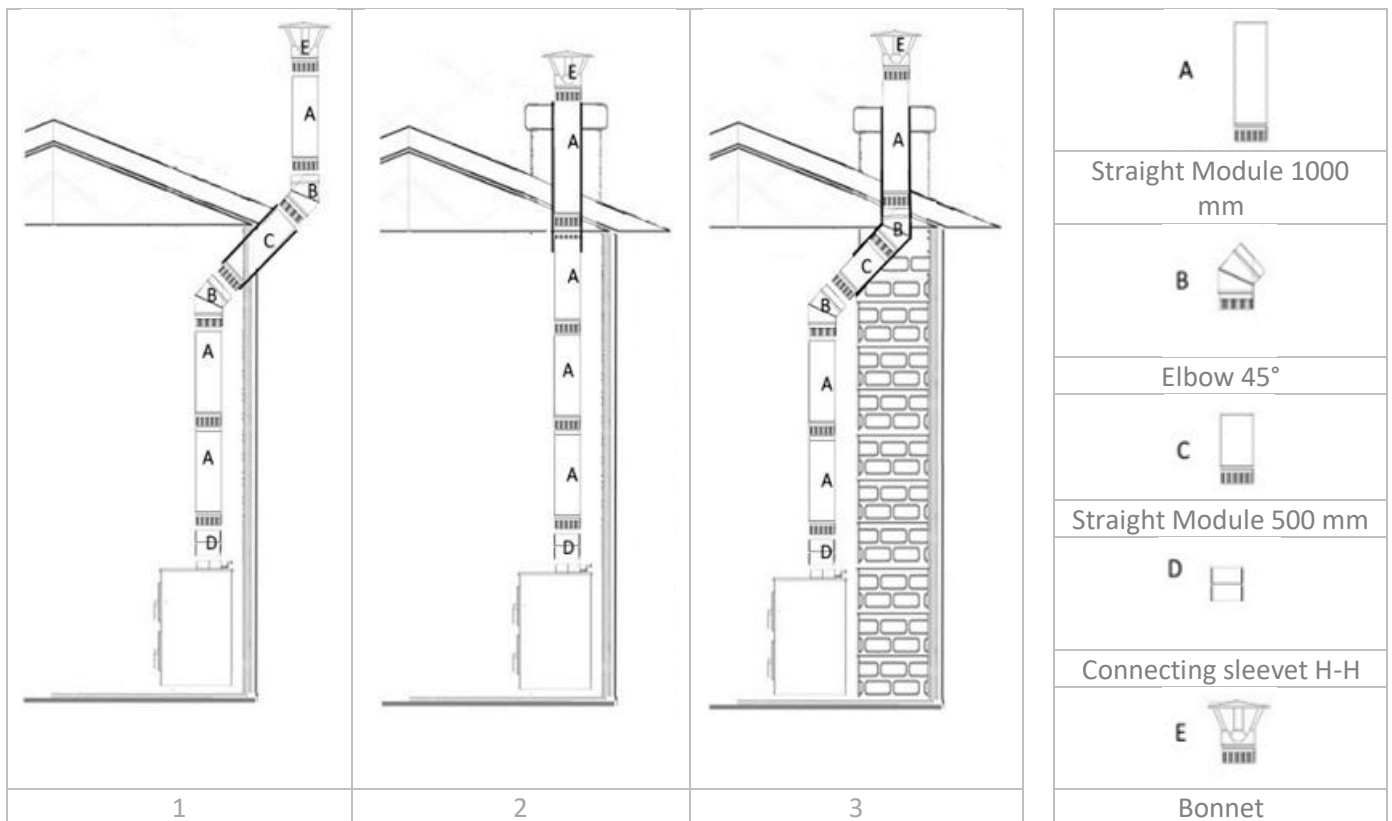

Figure 2
3. **VERTICAL SECTION (A).** The total length of the vertical pipe required to reach the roof for natural draught (flue gas depression) can vary from installation to installation, depending on various factors, but generally ranges from approximately 4 m to 6 m. However, optimal performance is guaranteed with a minimum vacuum of approximately ± 15 Pa (pascals).
4. **BENDS (B).** If bends are required (see drawings 1 and 2 in Figure 2), the ducts will be connected using elbows. These may be up to 45° and must not be narrowed. The following must also be considered:
5. **HORIZONTAL SECTION (C).** The connecting duct or horizontal section of the chimney must be designed with the minimum possible length and avoiding changes in direction and section as much as possible. The following must be taken into account accordingly:
6. **UNION SLEEVE (D).** For the correct connection of the vertical duct with the flue outlet collar m (male) of the cooker, a socket h/h (female/female) is required so that the end m (male end of the vertical duct faces downwards).
7. **CHIMNEY CAP (E).** For proper smoke evacuation and to prevent wind influences, certain minimum distances from the chimney cap are required. See the following figure: